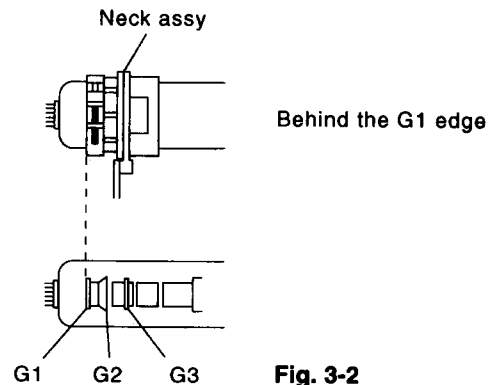

Fig. 3-2
2. Position neck ass'y as shown in Fig3-2.